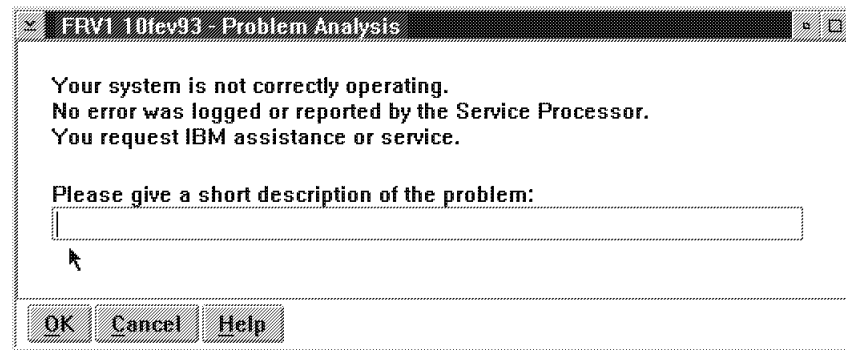

Figure 2-53. Link to RETAIN
4. \_\_\_\_ See Figure 2-53, enter a **short description** "Installing the 3746-950 and testing the RSF link", then click on **OK**.